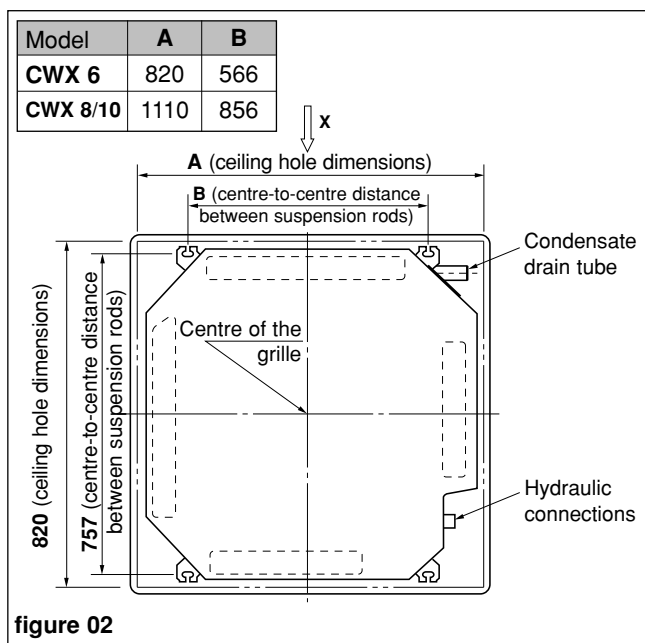

figure 02
- Refer to the dimensions in the table opposite (figure 02).